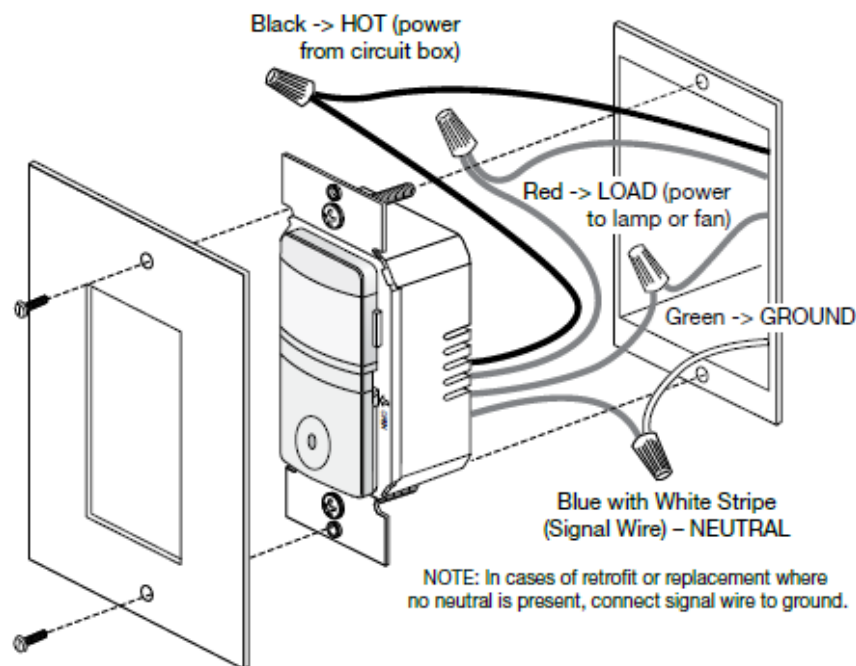

Fig 4: Sensor orientation, wire connections and wall box assembly
1. Twist the existing wires together with the wire leads on the RW600B sensor as indicated below. Cap them securely using the wire nuts provided. See Fig 4.